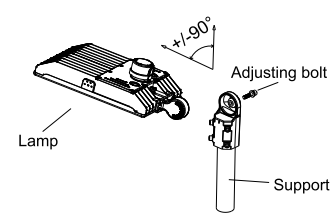

Figure 13
1. ADJUSTABLE FITTER MOUNTING (AM)
Step 1: Connect the wire correctly and put the wire into pole. Then fasten the locking bolts between slip fitter and the pole. (Figure 13)
Step 2: Loosen the fixing bolts and adjusting bolts, align the fixture to required angle. Tighten adjusting bolt and fixing bolts after the angle is confirmed. (Figure 13)
Notice: Adjustable angle is 0~+/-90° (Figure 13)